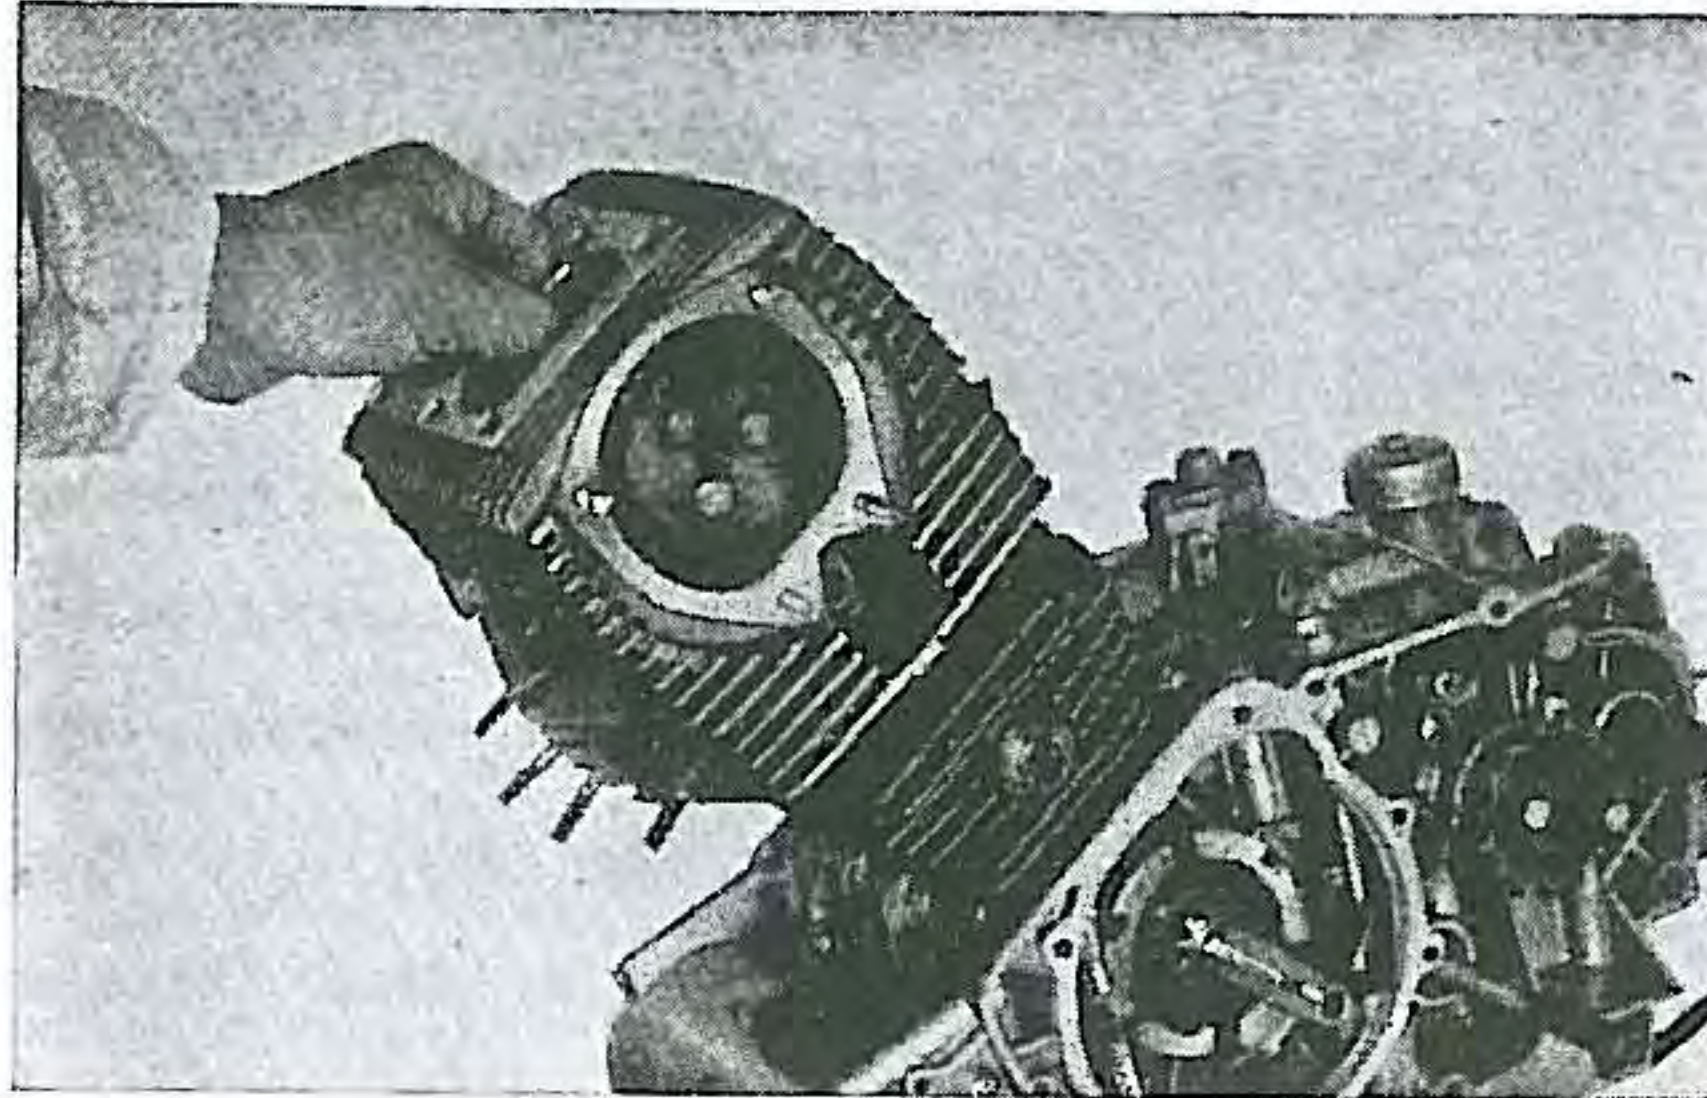

Fig. 50. Removing cylinder head
- (1) After removal of the cylinder head, and removal of the 2 stud nuts (6 mm) located on the left side base of the cylinder, the cylinder block can be lifted from the crank case over the stud bolts. (Fig. 50)